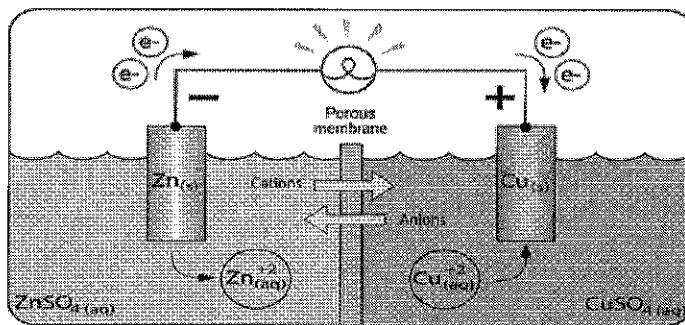

Figure 4(b) / Rajah 4(b)
- CLO1 (b) Figure 4(b) below shows the electron loss of a metal reacting with another metal in an electrolyte.
- Assign the type of corrosion shown in Figure 4(b).